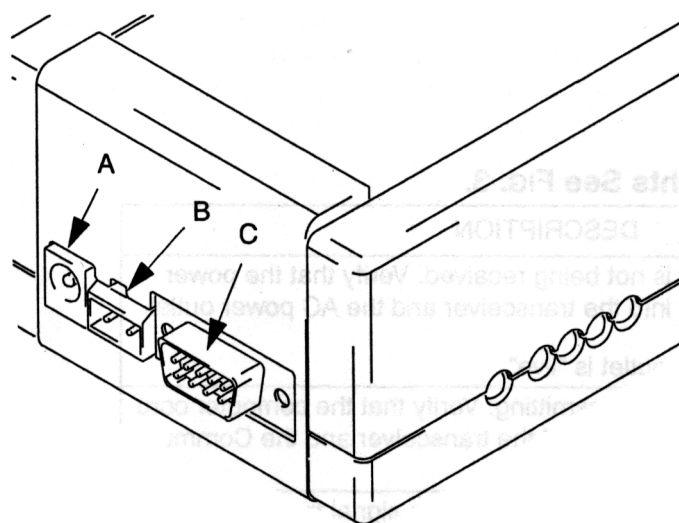
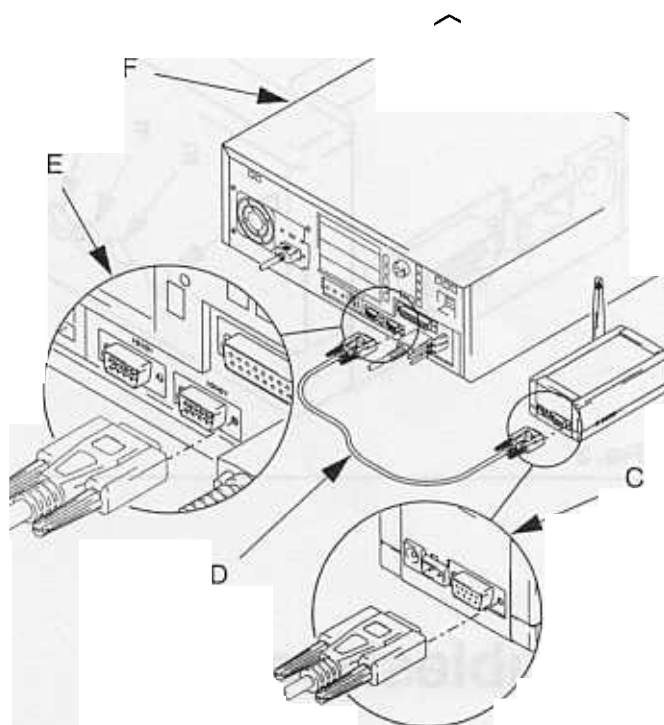

FIG. 1
FIG. 2
Plug the PC Receiver into a 110 VAC grounded outlet and into the power outlet of the repeater or wall buster (A). See FIG. 1.
2. Plug the power cord into the transceiver power inlet (A) and into a grounded 120V AC power source. The green power light (D) will illuminate indicating the transceiver is on. See FIG. 1.
1. Plug the PC (D) cord into an open communications port (E) of the PC (F) running the Matrix software. See FIG. 2.
2. Insert the transceiver end of the cord (D) from the PC into the PC transceiver plug (C). See FIG. 1 and FIG. 2.